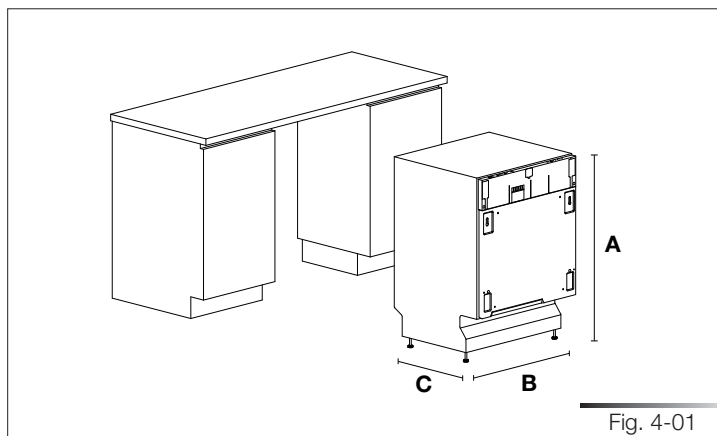

Fig. 4-01
The progressive number of each figure is shown in the bottom right-hand corner of the relative box. An example of a progressive number is “Fig. 4-01”, where the first number (4) indicates the section to which the figure belongs, while the second number (01) indicates the progressive number of the figure in section 4 (Fig. 4-01 is the first figure in section 4). The tables are numbered in the same way, bearing in mind that “Tab.” is used instead of “Fig.” (e.g.: Tab. 4-01 is the first table in section 4). If a table occupies more than one page, a letter is added after the progressive number (e.g.: “Tab. 4-01a”, Tab. 4-01b”).
4 DIMENSIONS OF DISHWASHER (See fig. 4-01)